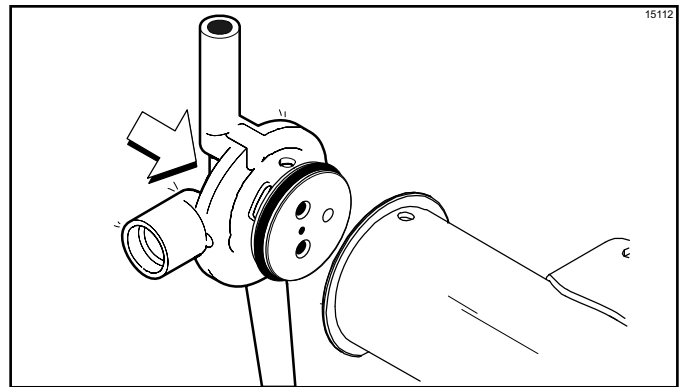

Figure 6-31
8. Insert the mix inlet assembly into the pump cylinder. (See Figure 6-31.)